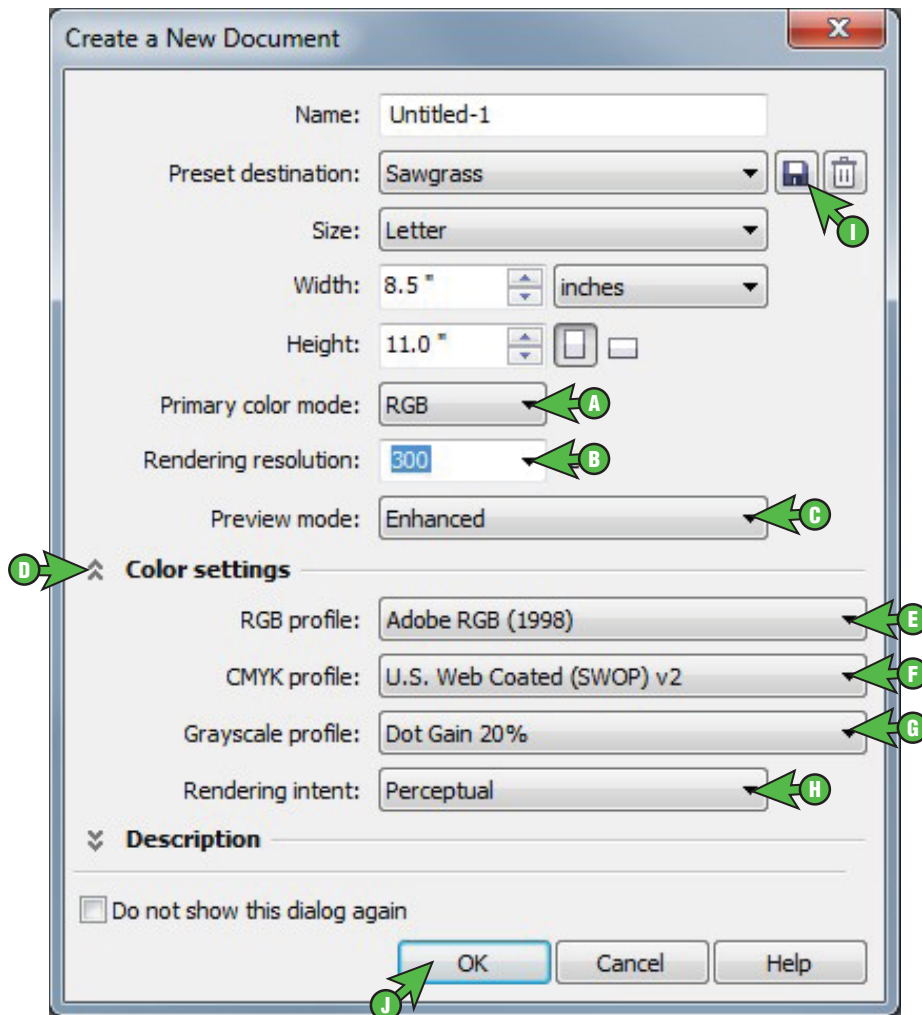

FIGURE 2
- 2.) Configure a New Document Workspace with the settings shown below (see FIGURE 2).